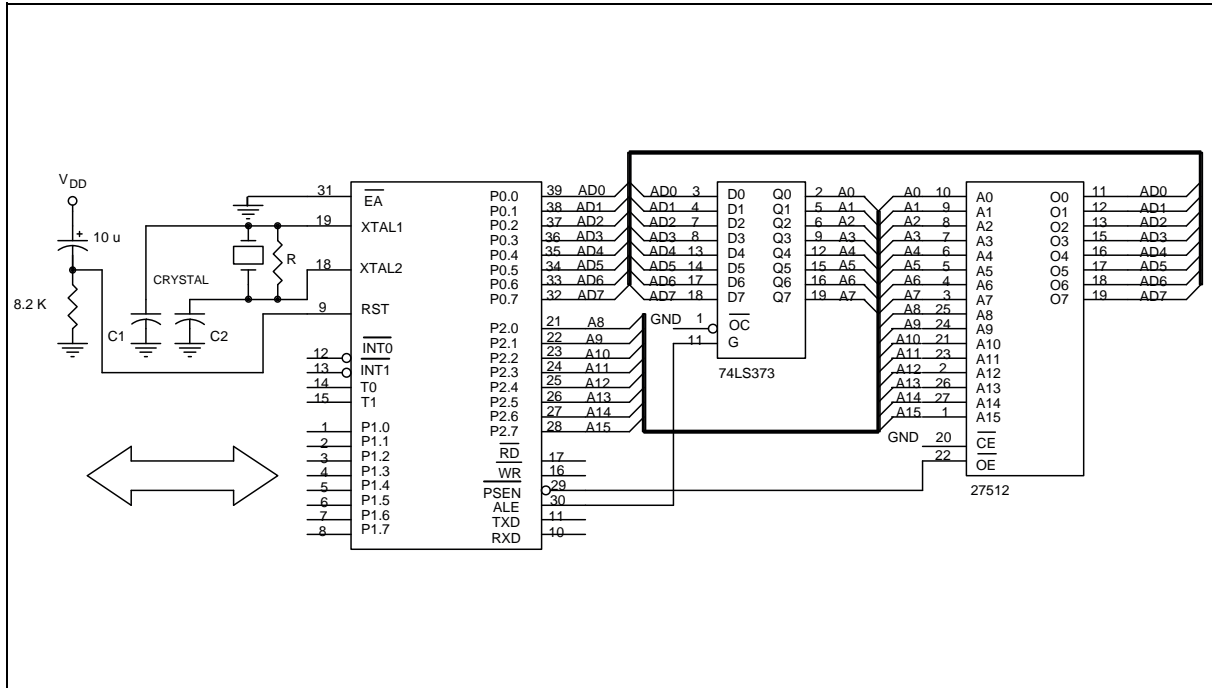

Figure 20-1
1. For C1, C2 and R components, see Figure 20-1